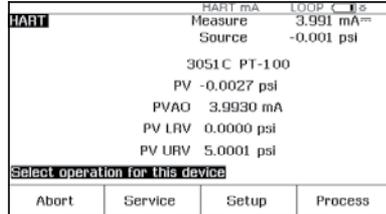

Figure 5.
1. Power on the Fluke 754 Calibrator. Press the red  key followed by the **Loop Power** softkey and the 754 will display the basic HART information for the 3051 (Figure 5).
- Select **Output Trim** and press **ENTER**. The value of the primary variable (PVAO) is in the upper right corner of the display. (Figure 5). This is normally a 4 mA signal. The mA value, as constantly measured by the Fluke 754, is in the center of the display. Press the **Fetch** softkey to load the measured mA value. Press **Send** to send the value to the 3144 to trim the output section for the 4 mA value. Press **Continue** for the 20 mA trim and repeat this step.